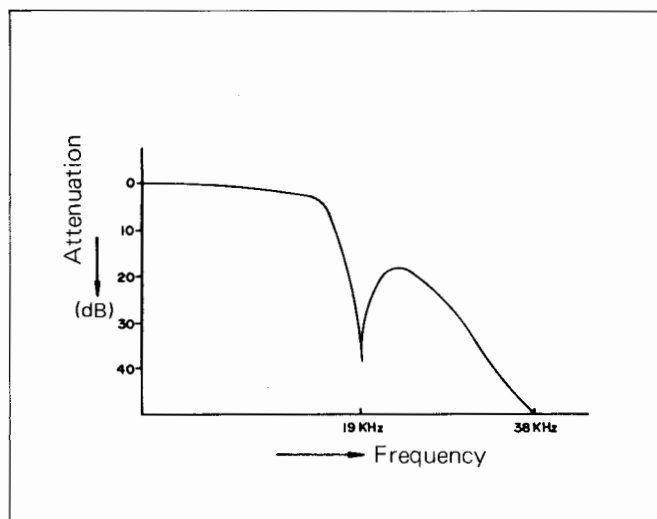

Figure 28 CHARACTERISTIC OF LOW-PASS FILTER
2. FL301 and FL302 are a low-pass filter that works to remove carrier signals leaking from the stereo P.L.L. multiplex demodulation IC301. Fig. 28 describes its characteristic as result of which the signals of 19kHz and 38kHz will be got rid of.